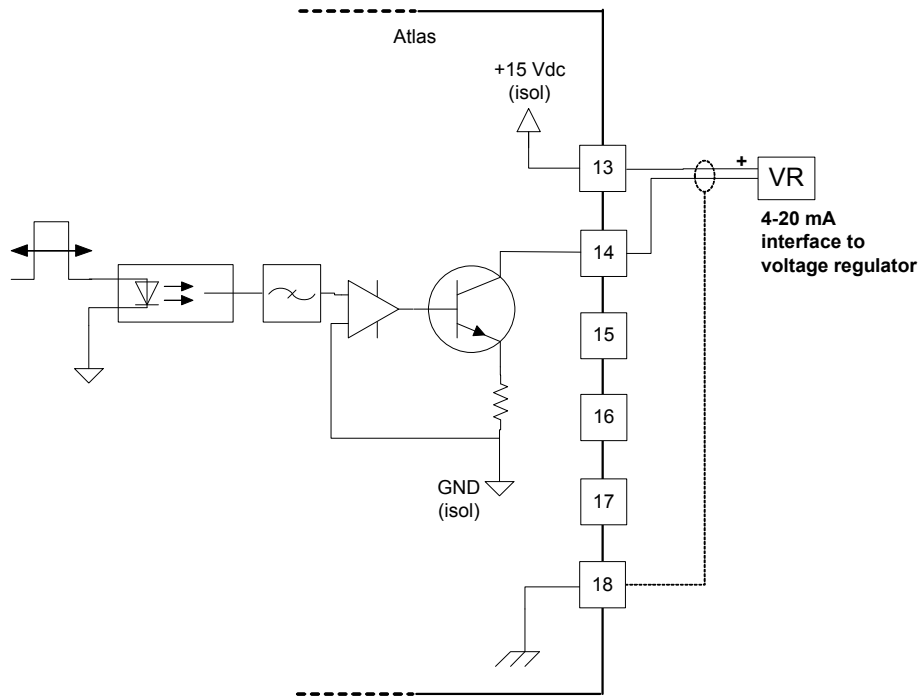

Figure 8-13. Wiring Example—Voltage Bias Output Interface (to the PowerSense Board configured for 4–20 mA)
- Refer to Figures 8-13 and 8-14 for Voltage Bias Output wiring.